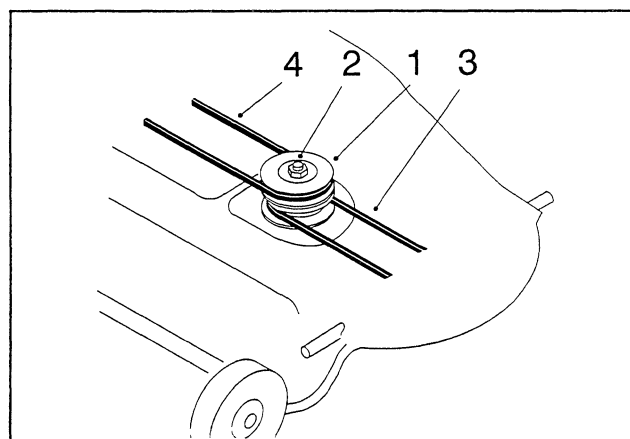

Figure 2
5. Slide the new double pulley onto the pulley shaft and secure it in place with a 5/8" lock washer and nut (Fig. 2). Make sure the word "TOP", stamped into largest pulley, faces up. Tighten the nut to 60–80 ft-lb.
6. Install the **blower** belt onto the lower pulley, leaving the other end of the blower belt loose (Fig. 2).
7. Install the existing **mower** belt by rotating it onto the top pulley (Fig. 2).